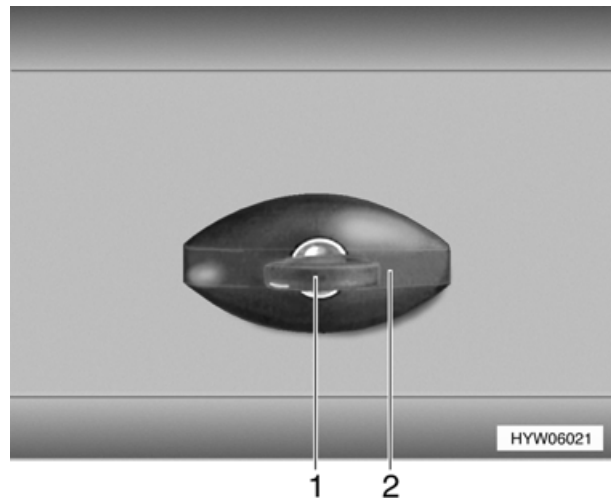

Fig. 16 Flap lock (variant 2)
- ▷ During rain, water can penetrate the opened flap lock. Therefore close the lock handle (Fig. 16,2) as shown in Fig. 16.
- Insert key into locking cylinder (Fig. 16,1) and turn a quarter turn in an anticlockwise direction. The lock handle (Fig. 16,2) snaps out.
- Turn lock handle (Fig. 16,2) in a clockwise direction, until it is horizontal. The flap lock is bolted but not closed.
- Insert key into locking cylinder (Fig. 16,1).